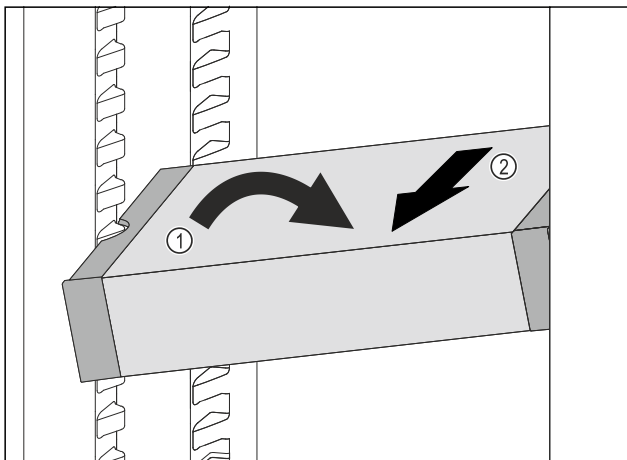

Fig. 100
- Set VarioSafe in refrigerator compartment at an angle. Fig. 100 (1)
- Take VarioSafe out to the front. Fig. 100 (2)